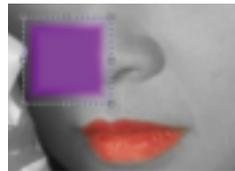

Figure 9
4. Your image should now appear as in **Figure 9**. Feathering applies a graduated transparency to the edge of the object. Note that with an object, the feather is directed from the outer edge inward. With Masks, you have more control over how feathering is applied, including the ability to feather outward.